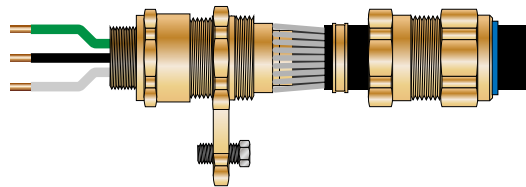

Figure 25: Typical earth bonding connector
- ◇ Via armored cable and the use of a cable gland designed to allow a bonding jumper to be run between the gland and protective earth (see *Figure 25*).